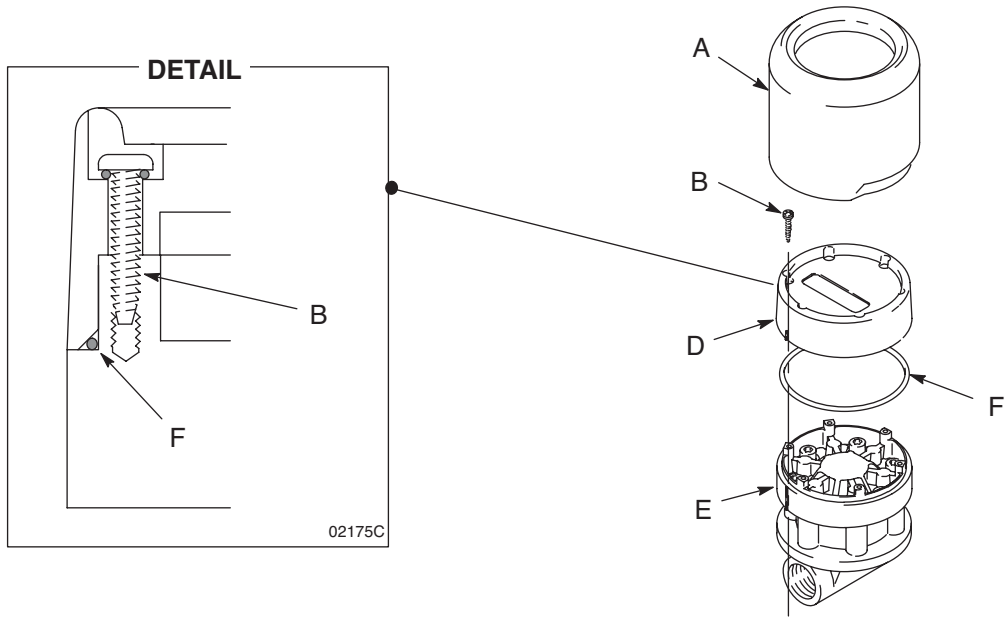

FIG. 1
3. Lift the bottom edge of the black cover (A) away from the meter, and pull the cover off. Remove and discard the screws (B). Lift off the electronic control (D). Remove and discard the large o-ring (F), if one is used. (FIG. 1)
4. Install a new electronic control (D). Install the large o-ring (F) over the lip on the top of the metering unit (E). Align the notch on the side of the electronic control (D) with the notch on the side of the metering unit (E). Install the new screws (B), and tighten them oppositely and evenly to 3 in-lb to 5 in-lb (0.34 N.m to 0.57 N.m) until a complete seal is obtained, as down in the DETAIL in FIG. 1.